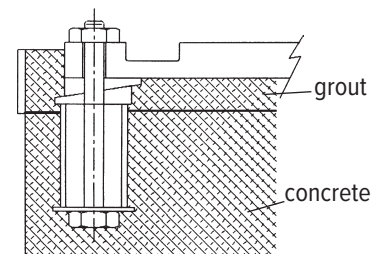

figure 7
1. The foundation that the pump will be sitting on should be strong enough to support the pump as well as absorb any vibration that the pump will produce. A concrete platform should be acceptable. Bolts embedded in the concrete can be placed by using a template or drawing. See figure 7. The use of a pipe sleeve larger than the bolt will compensate for base movement for final bolt location.